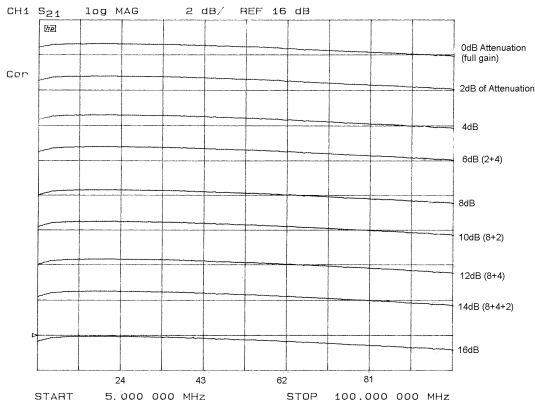

Figure 3
3. For higher frequencies see figures 3 & 4.